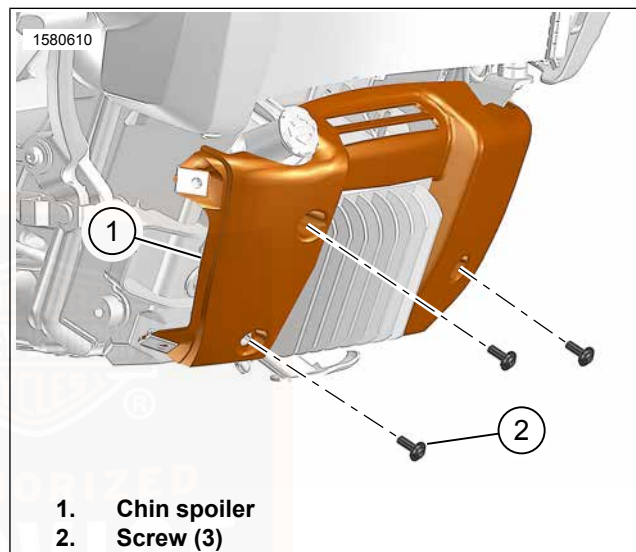

Figure 88. Chin Spoiler
3. See Figure 88. Remove screws (2).
4. Remove chin spoiler (1).
1. See Figure 88. Install chin spoiler (1).
2. Install screws (2). Tighten.